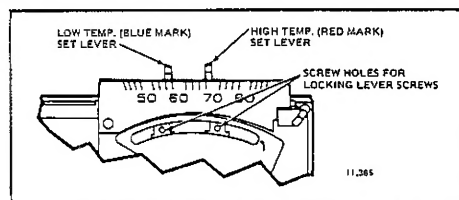

Fig. 10—Temperature control levers.
- ☐ The two levers on top of thermostat control the low and high temperatures for energy savings and comfort control (Fig. 10). The lever on the left (blue mark) controls the lower temperature. The lever on the right (red mark) controls the higher temperature.